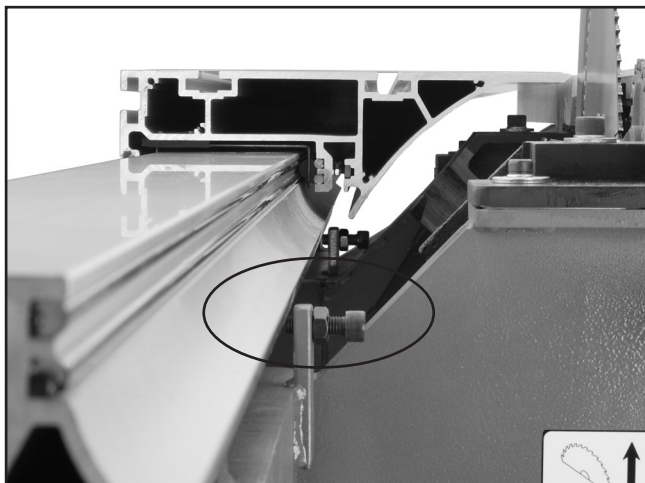

Figure 95. Table parallelism adjustment bolts.
9. Slowly make the adjustments to the parallelism adjustment bolts (**Figure 95**) on the end that is closer to the blade.